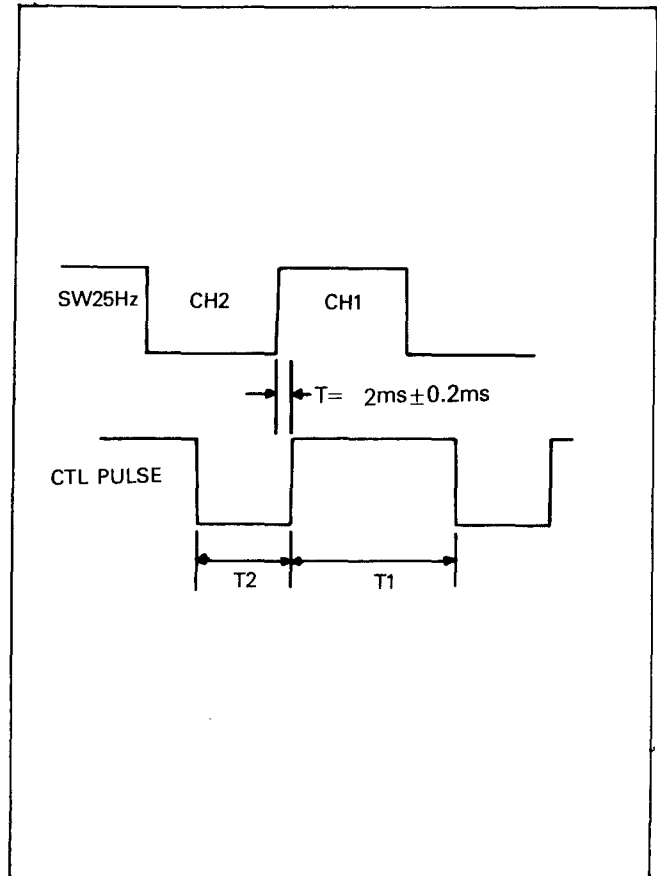

Fig. 5 Tracking Preset
- 4) Set the Tracking Control (VR701) on the front panel to the detented position and adjust the Tracking Preset Control (VR203) to align the pulse width $T=2.0\text{ms}+0.2\text{ms}$. (Fig. 5)